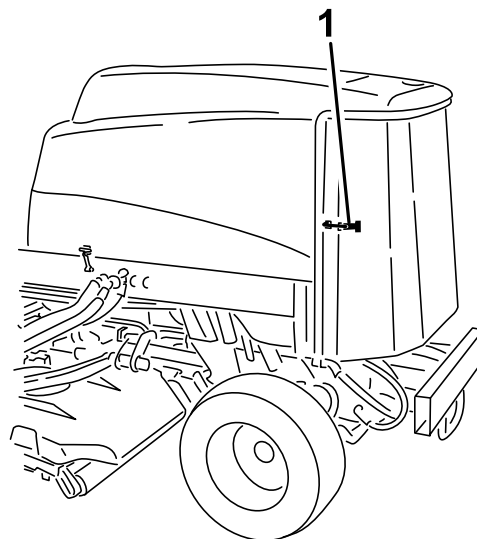

Figure 112
2. Unlatch and swing open the rear screen (Figure 112).